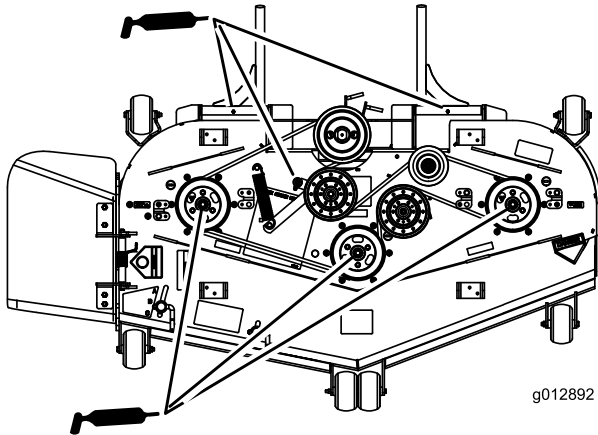

Figure 39
4. Grease the three spindle bearings until grease comes out (Figure 39).
5. Grease the idler arm on the mower deck (Figure 39).
6. Grease the fittings on the push arms (Figure 39).